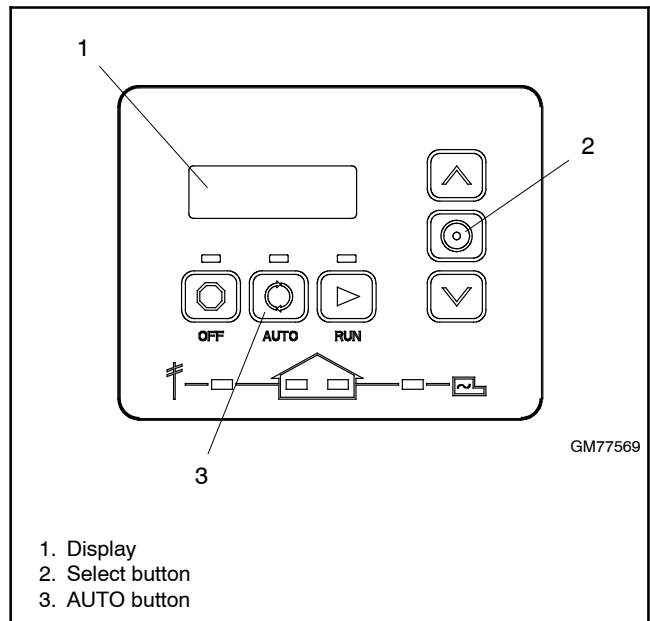
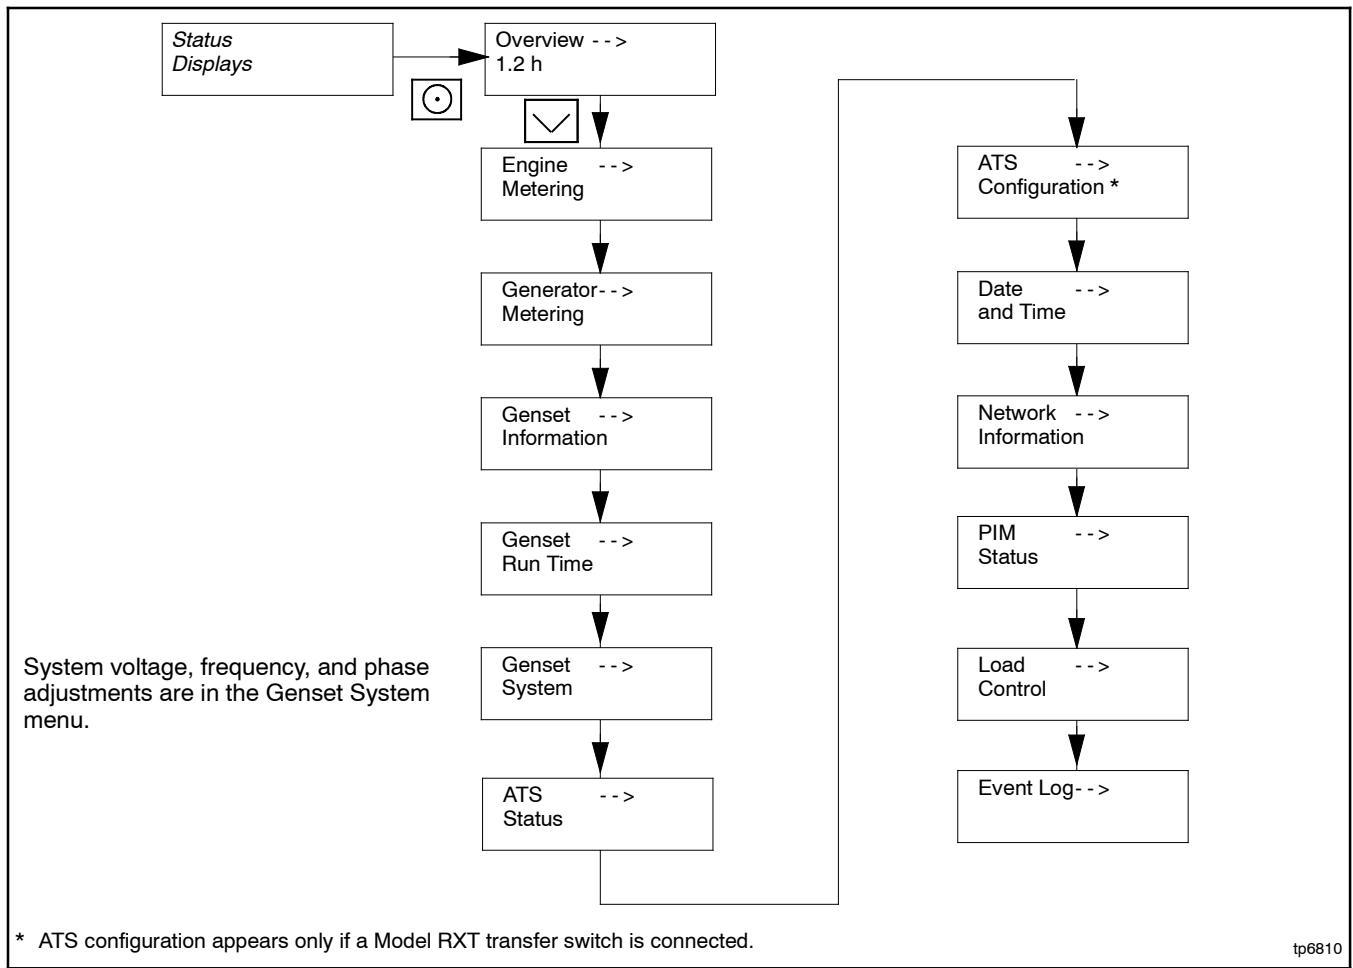

Figure 3-4 RDC2 Controller User Interface
Figure 3-5 RDC2 Main Menu
1. Press the Select button to enter the main menu. See Figure 3-4 and Figure 3-5. The Overview screen will be displayed.
2. Press the down arrow button to navigate to the Genset System menu. See Figure 3-5.